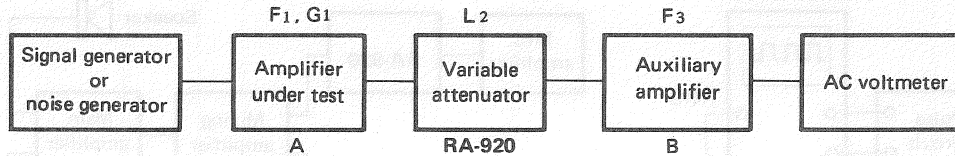

Fig. 6
4. Measurement of noise (Fig. 6)